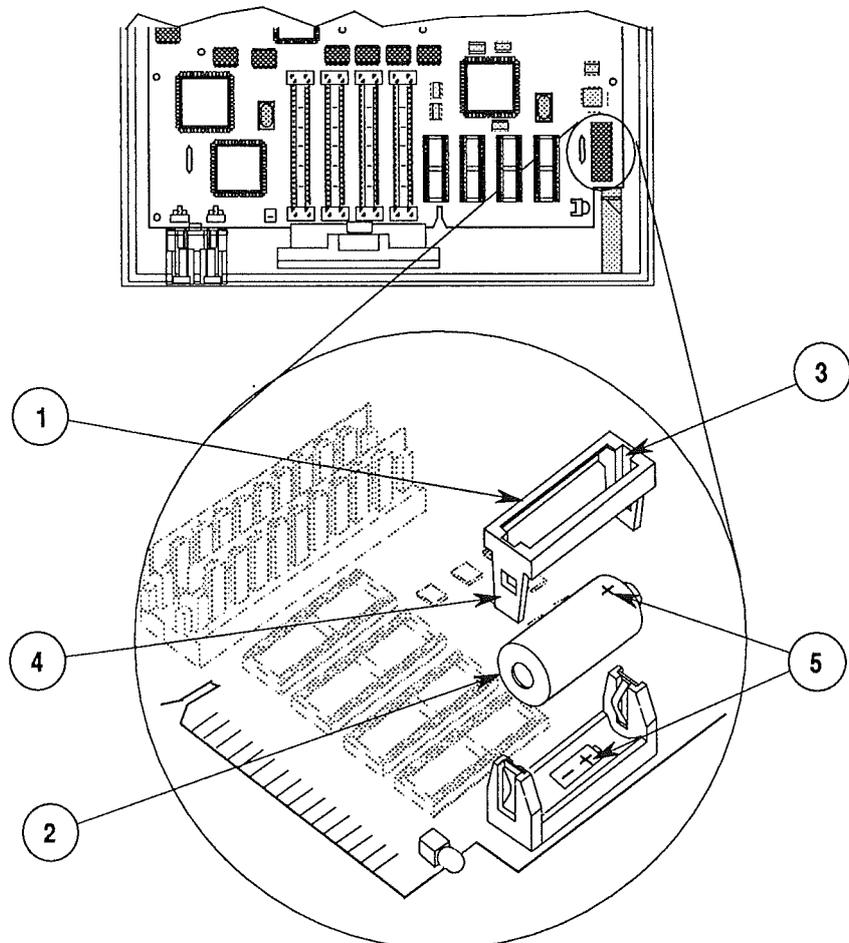

FIGURE 1
2. Locate the battery holder (Figure 1, #1) and battery (Figure 1, #2) toward the front of the logic board.
3. On one side of the battery holder, insert a small (1/8") flat-blade screwdriver into the top (Figure 1, #3) and gently push the screwdriver down until the side tab (Figure 1, #4) pushes out. The battery holder cover will come loose; do the same on the other end and remove the cover from the holder.
1. Insert the new battery so the positive side of the battery is inserted into the positive-marked side of the holder (Figure 1, #5), the side away from the LED.
CAUTION: *Be sure the positive side of the battery is in the correct location (see Figure 1). An incorrectly placed battery can damage the logic board.*